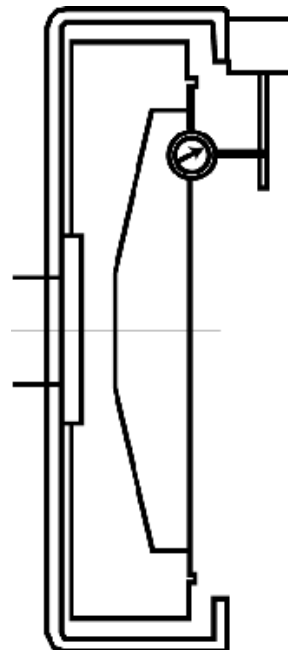

FIGURE 6
- 4.1.4 Check flywheel pilot bore runout. (see Figure 6)